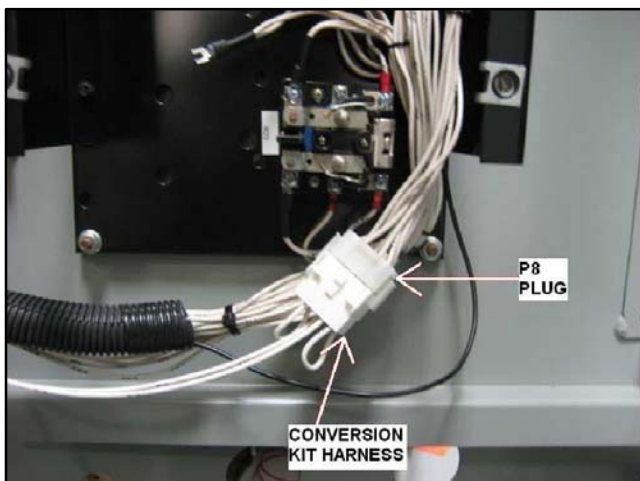

Figure 42 Connect Conversion Kit Wire Harness Connector P8 to Plug P8
33. Connect the conversion kit wire harness GM77827 connector P8 to plug P8 that was disconnected from the upper board in the previous step. See Figure 42.